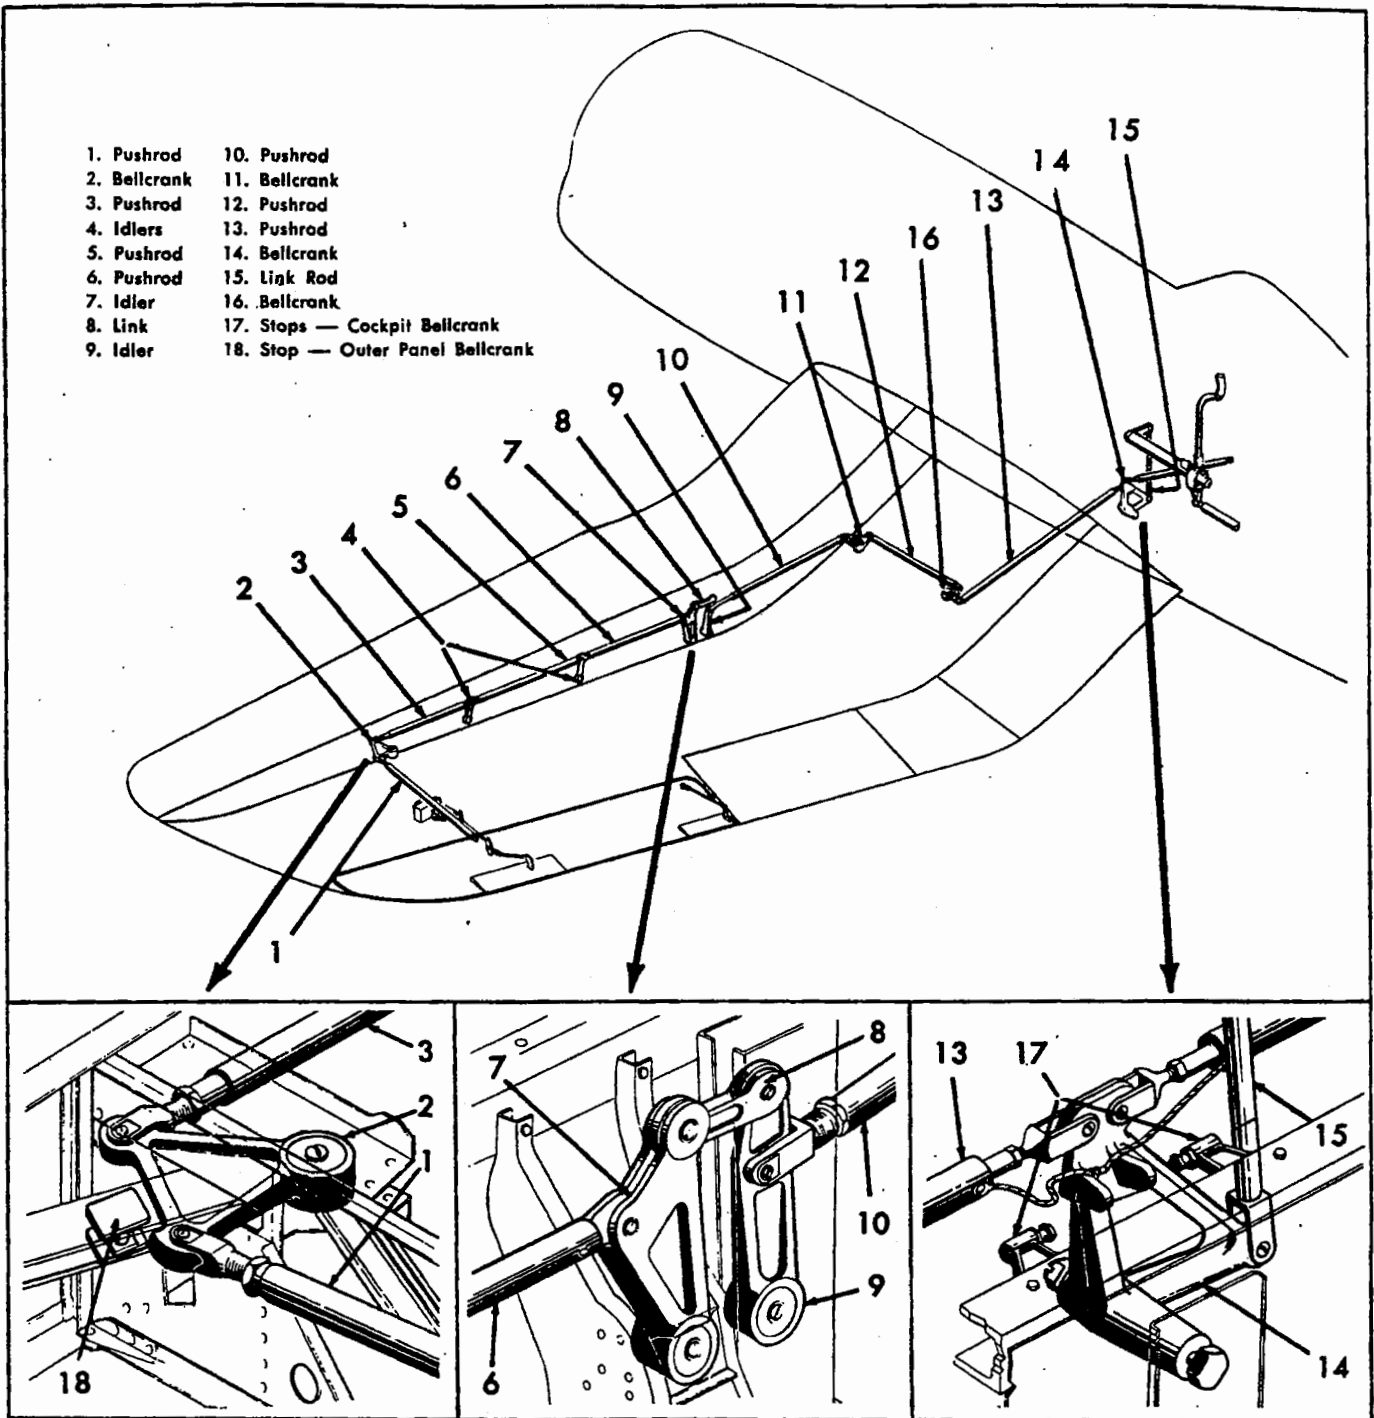

Figure 4-20. Aileron Control System.
- Remove protective boot (8).
- Disconnect armament electrical lead (13) from pilot's distribution box.
- 7. Aileron Control System (see figure 4-20)
4-124. DESCRIPTION. (See figure 4-20.) The lower end of the control stick straddles the torque tube which actuates the aileron linkage consisting of pushrods, bellcranks, and idlers extending through the center section and outer panels to the aileron. By differential linkage in the system, a difference is created between the "up" throw of one aileron and the "down" throw of the opposite aileron. When the upward displacement of one aileron is 19 degrees, the downward displacement of the opposite aileron is 14 degrees, the difference being required for aerodynamic reasons. One balance tab is incorporated in each aileron and it automatically moves in the opposite direction to that in which the aileron is rotated, to aid in reduction of stick forces. One trim tab, located in the left hand aileron, provides lateral trim of the airplane when required. It is operated electrically by a linear actuator energized through a toggle switch in the cockpit. The following table gives maximum aileron and aileron trim tab deflections:
4-125. LOCATION AND ACCESS. (See figure 4-20.)
4-127. REMOVING. (See figure 4-20.)
4-130. INSTALLING. (See figure 4-20.) Installation of the aileron control system is the reverse of the procedure described in removal; see paragraph 4-127. To facilitate reinstallation and rigging of the ailerons, it is advisable to hold aileron control rods to dimensions indicated in the following paragraphs. Rods (6) and (12) installed in the left hand wing are not inter-
b. Install and adjust pushrod (1) to bellcrank (2), so that the rod length is $34 \frac{5}{8}$ inches long as measured from the centers of the rod end bolt holes. This is the normal adjustment length.
c. Install and adjust pushrod (3) on bellcrank (2) and idler (4) so that its length is $28 \frac{13}{16}$ inches, the normal adjustment length.
d. Install pushrod (5) on idlers (4). This rod is 30 inches in length and is non-adjustable.
e. Install right and left pushrods (6) which are non-adjustable on idlers (4) and (7). Pushrods (6) are $29 \frac{15}{16}$ inches in length. Right and left hand rods are not interchangeable.
f. Install link (8) if removed, and install pushrod (10) which is adjustable, and is normally $39 \frac{1}{4}$ inches in length, to idler (9) and bellcrank (11).
g. Install right and left pushrods (12) which are non-adjustable and $25 \frac{1}{4}$ inches long, on bellcranks (11) and (16). Right and left hand rods are not interchangeable.
h. Install adjustable pushrod (13), whose normal length is $47 \frac{13}{16}$ inches, on bellcranks (16) and (14).
i. Install and adjust link rod (15) whose normal length is $18 \frac{3}{16}$ inches.
The bolt which attaches pushrod (13) to the center section aft bellcrank (16) must line up with the pivot bolt of bellcrank (11) when the control stick is locked in neutral. Adjust pushrod (13) at bellcrank (14) until the alignment is accomplished; see figure 4-20.
k. Adjust the outboard end of pushrod (10) which attaches to idler (9) on the center section wing butt, so that when the pushrod is attached, the center of the bolt lies $\frac{3}{4}$ inch inboard of the center of the upper hinge bolt. Scribe a line on the upper hinge fitting $\frac{3}{4}$ inch inboard at the center of the hinge bolt to aid in making this adjustment.
l. Connect idler (7) on the center section wing butt lever to pushrod (6) of the outer panel.
m. Connect idler (9) to pushrod (10) of the center section.
n. Install link (8) connecting idlers (7) and (9).
o. Adjust pushrod (1) so that the ailerons align with the wing contour with the stick locked in neutral.
4-131. ADJUSTING. (See figure 4-20.) The special tools required are a protractor, a checking board and a surface control lock. See figures 4-30 and 4-31. Remove the locking device from the control stick and rudder pedals.
a. Adjust the aileron control stop (18) at the outer panel bellcrank so that maximum deflection of the aileron being adjusted is 19° plus or minus 1° , "up." After both ailerons have been adjusted for their maximum "up" throws, the "down" throws should check at 14° , plus or minus 1° . If this adjustment is not obtained, check over the entire linkage to make certain that it has been installed properly.
b. The aileron stops (17), (see figure 4-20) underneath the cockpit floor at the bellcrank (14) are adjusted so that they act simultaneously with the outer panel stops (18). This is checked with the aid of slips of paper between the stop screws and bellcranks (14) and (2) in the cockpit and in the outer panel respectively. When both pieces of the paper are torn simultaneously as the control stick reaches its extreme left or right hand position, the stops are satisfactorily adjusted.